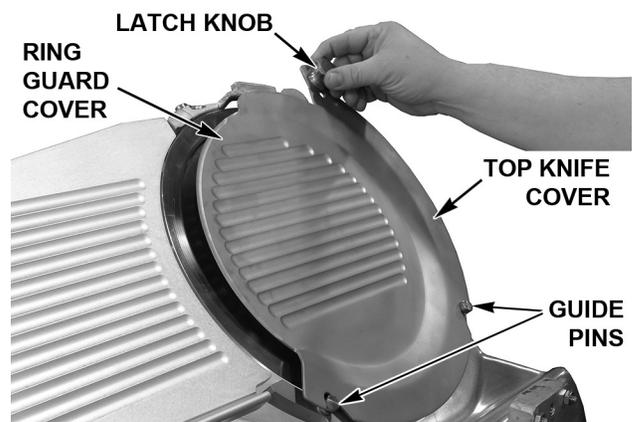

Fig. 12
- Install the Ring Guard Cover on the three Guide Pins (Fig. 12).
- Position the Top Knife Cover (Fig. 12) on the lower two Guide Pins and lower the Latch Knob until the magnet secures the Top Knife Cover in place.